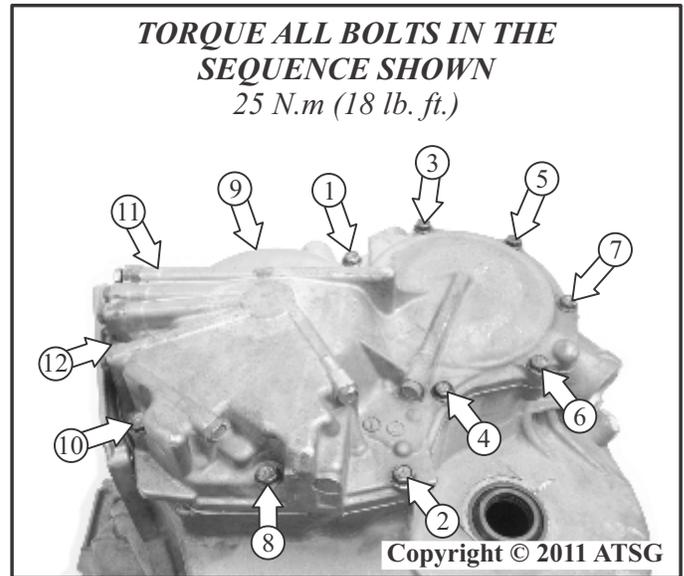

Figure 221
33. Once the rear case cover bolts have been hand tightened, torque each of the twelve bolts to 25 N.m (18 lb. ft.) in the numerical sequence shown in Figure 221.